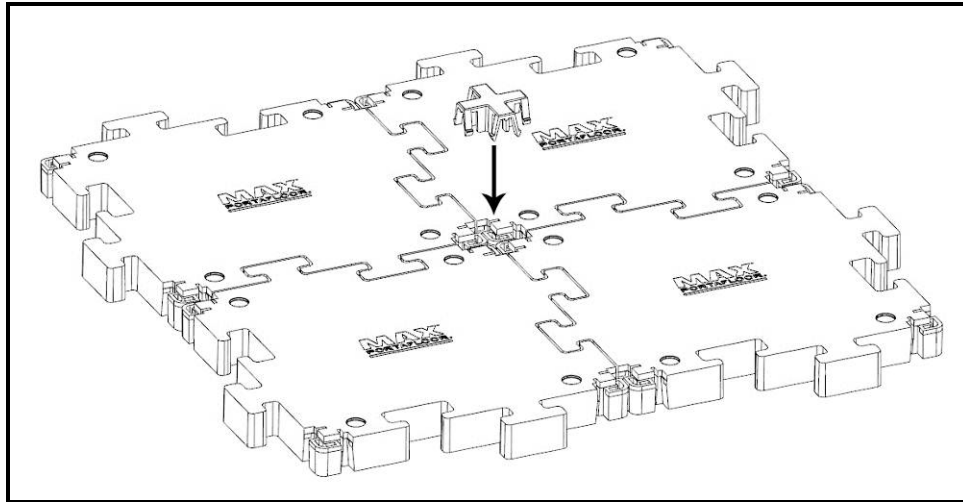

Figure 3
5. As you proceed, install the corner locks at each intersection where four PFMAX panels come together (see Figure 3). **It is critical to install the corner locks as each PFMAX is laid down in order to allow for the correct spacing between each panel.**